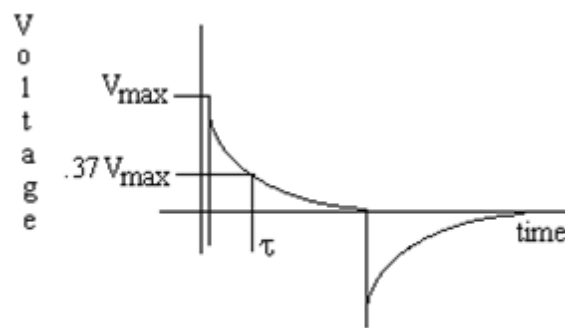

Figure 4
4. Measure τ from the oscilloscope screen, as shown in Figure 4, and record the value in the table on next page. This will be the **Observed** value for τ .